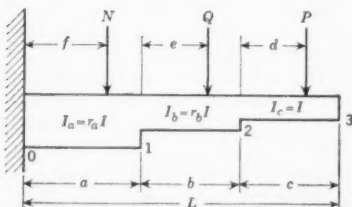

FIG. 1.
2. The deflections of a cantilever beam fixed at the support as shown in Fig. 1
With reference to the beam shown in Fig. 1, the notations are defined as indicated in the figure, unless otherwise noted.
Case A. Concentrated loads P , Q and N acting as shown in Fig. 1